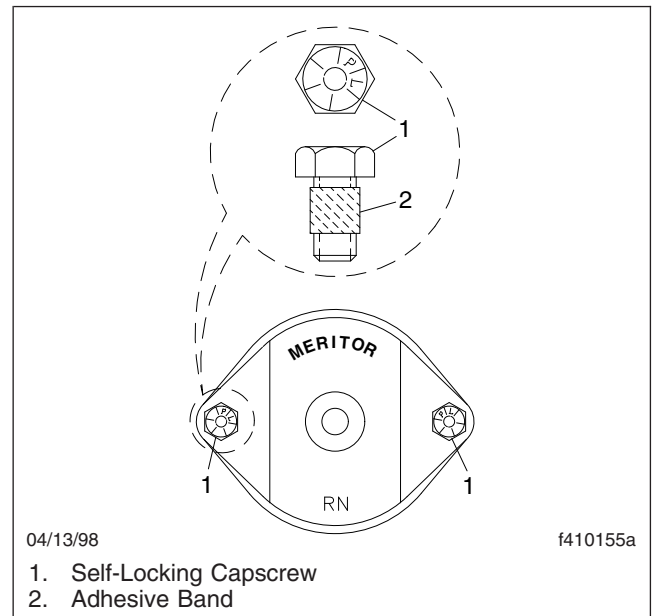

Fig. 1, Meritor U-Joint Fasteners for Bearing Caps
2. For driveline universal joints with bearing caps, tighten bearing-cap capscrews 43 lbf-ft (49 N·m). See Fig. 1, item 1.